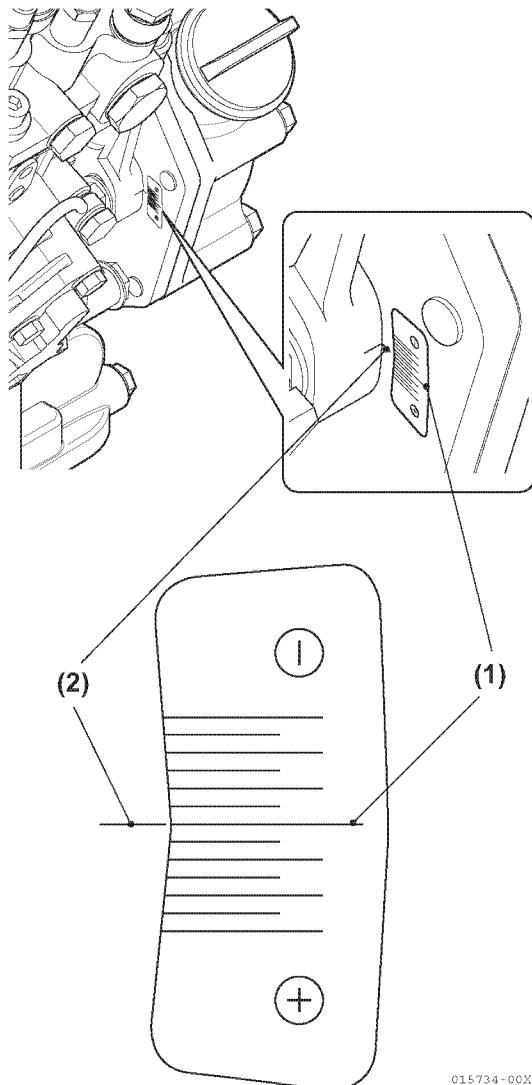

Figure 6-70
- Reinstall the timing grid sticker, provided with the new fuel injection pump, onto the back of the gear case / front plate (**Figure 6-70**). Align the “standard mark” (**Figure 6-70, (1)**) with the reference mark (**Figure 6-70, (2)**) made on the gear case during disassembly.